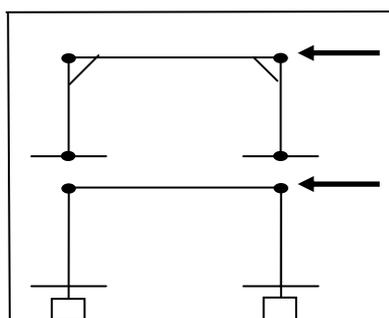

Figure 3 – Rigid Structure
- **Rigid Structure** – if the joints in the structure are made rigid, the structure can resist lateral loads. This can be accomplished by using knee-braces, deep footings etc (See Figure 3).